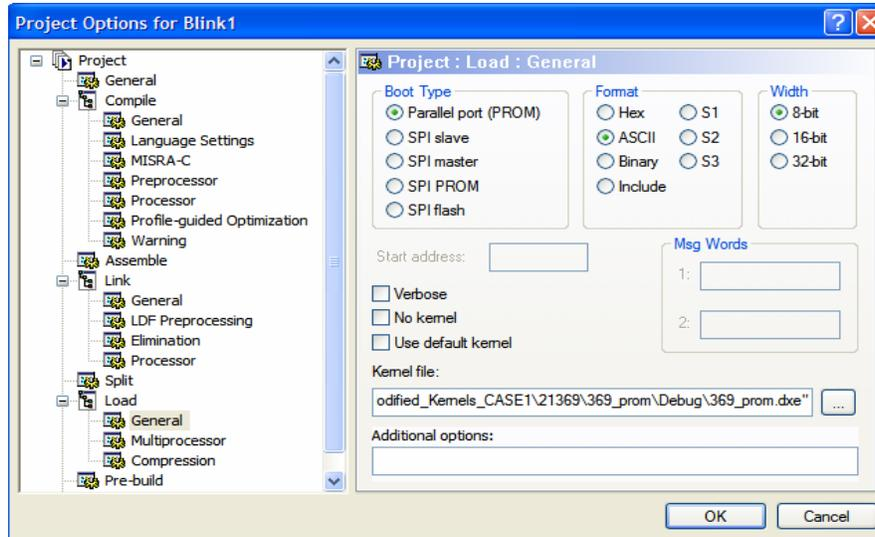

Figure 3. Loader options for “Blink1”
2. Build the project “Blink1” to generate Blink1.ldr for external port boot in ASCII format with loader options, as shown in Figure 3. Ensure that it uses the modified kernel 369_prom.dxe.